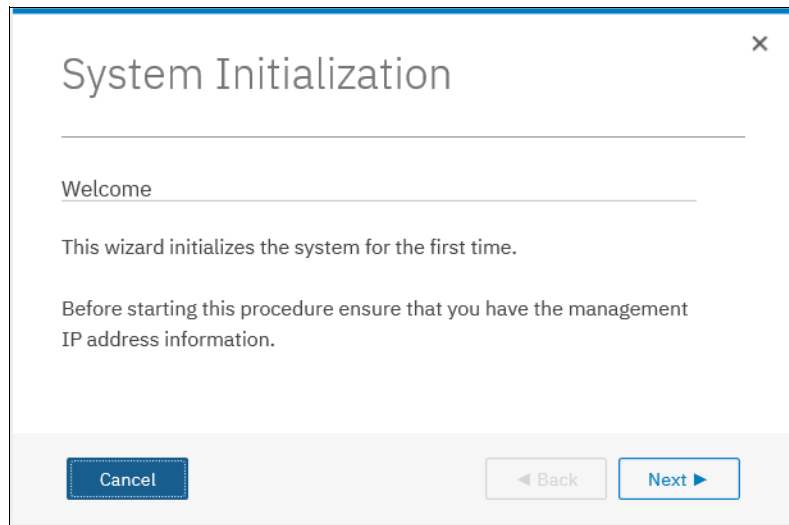

Figure 3-5 System Initialization: Welcome dialog box
3. The Welcome dialog box opens, as shown in Figure 3-5. Click **Next** to start the procedure.